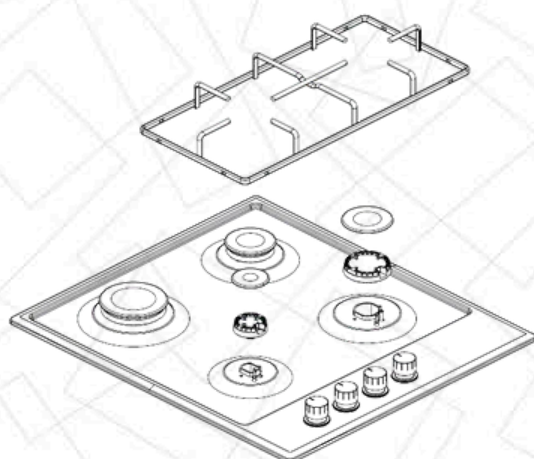

Fig1
1. Remove the grate, burner cap, and burner body to expose the injector (Figure 1).